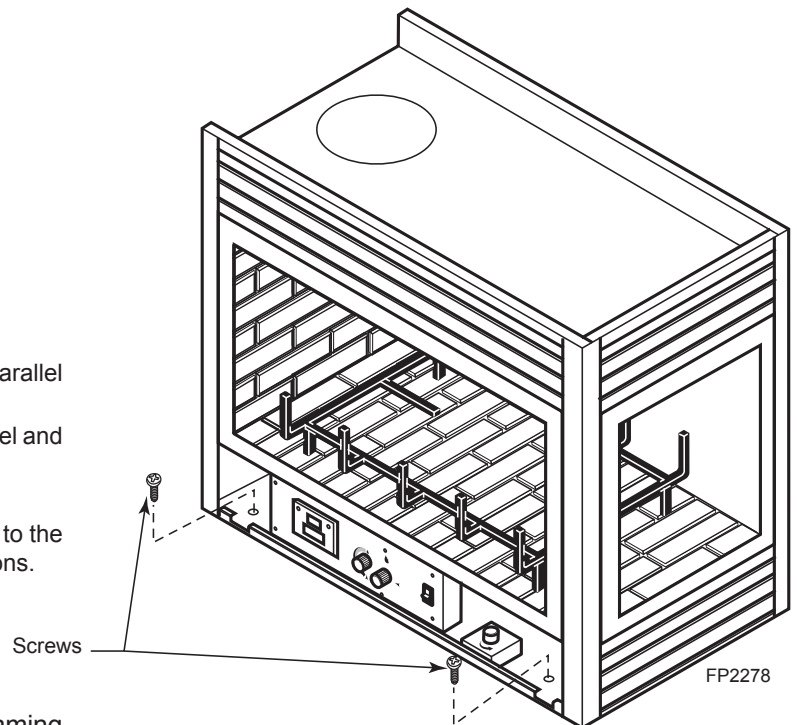

Figure 8 - Secure Fireplace to Floor and Framing Studs
The fireplace must be secured to the floor and/or to framing studs as shown in *Figure 8*. Use two (2) wood screws or masonry/ concrete screws to secure fireplace to the floor. Use four (4) screws to attach fireplace to framing. The side brackets are adjustable from 1/2" to 5/8" to accommodate different thickness of noncombustible material.